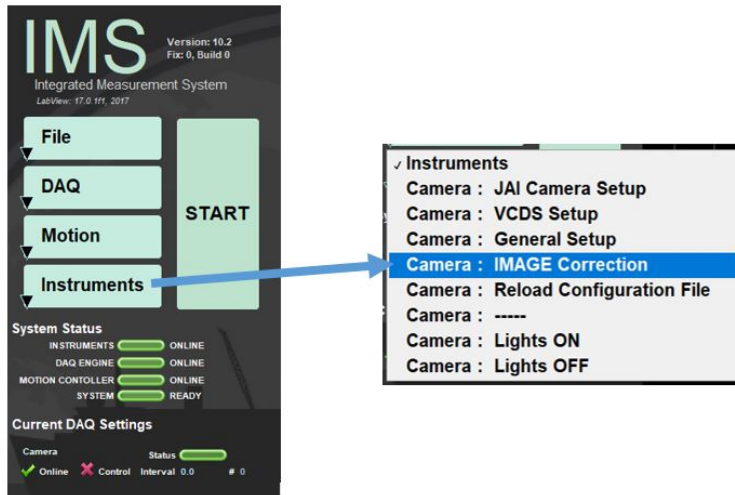

Figure 27: Image Correction command selection.
6. On the main IMS panel select **Instruments** and **Camera: Image Correction** (Figure 27).